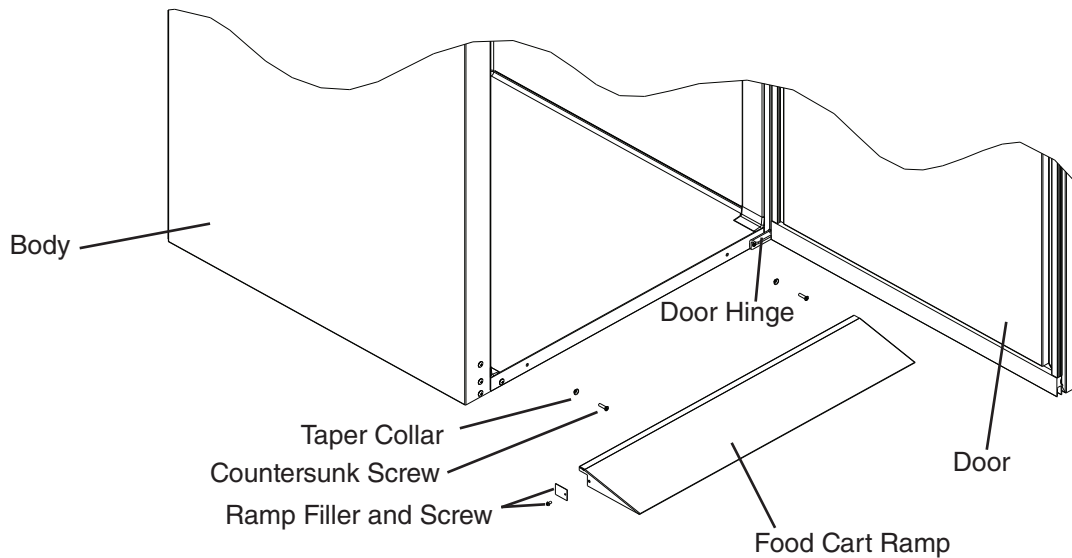

Fig. 5
- 1) Attach the taper collars and countersunk screws to the body. See Fig. 5.